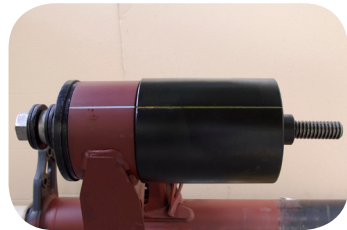

Fig. 14 · Correct receiver tube position
7. Slide the equipped receiver tube (5) over the exposed threaded bolt (1) with the centering ring of the receiver tube facing toward the receptacle (6) until the receiver tube rests squarely on the receptacle. Make sure that the line previously drawn on the external surface of the receptacle is aligned with the line on the receiver tube (Fig. 14).